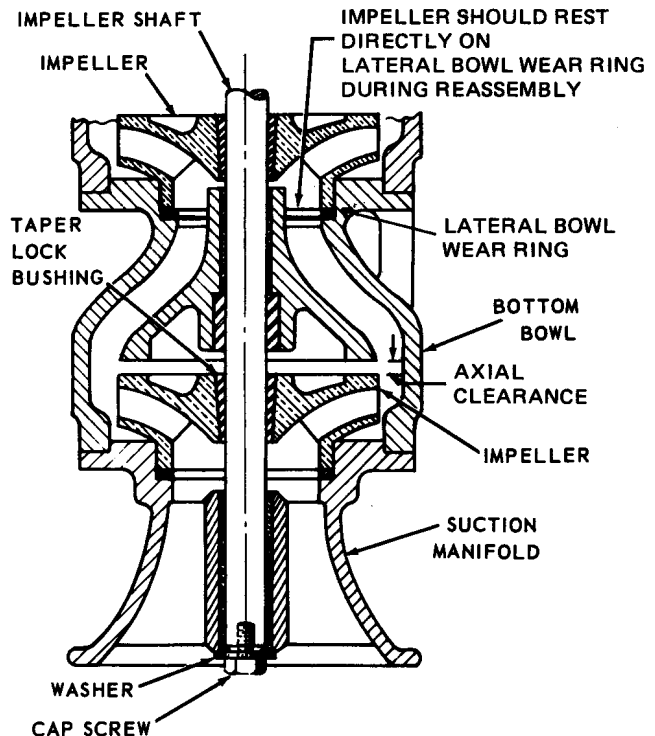

Figure 5. Reassembly Detail
16. Spread the taper lock bushing with a screwdriver and slide it from the shaft. Unscrew or unbolt the bottom bowl (Figure 5) to remove.
3. Slowly slide the suction manifold (55), flange end first, up the shaft until it seats on the impeller. Insert a cap screw (5/8-11 UNC x 2) and a 5/8-inch washer (1/4-inch thick, at least 1-3/4-inch OD) into the bottom of the shaft and screw in only until snug (see Figure 5). Use a beater (as described in disassembly), sliding it up and down the shaft to drive the taper lock bushing tightly into the impeller bore. Remove the suction manifold and check to insure that the impeller is still even with the scribe mark. Replace the suction manifold, this time tightening the 5/8 cap screw.
4. Coat the upper face of the suction manifold flange (55) (threads on screw type) with lubricant.
5. Place the bottom bowl (310) on the shaft, female end first, using care not to damage the shaft threads.